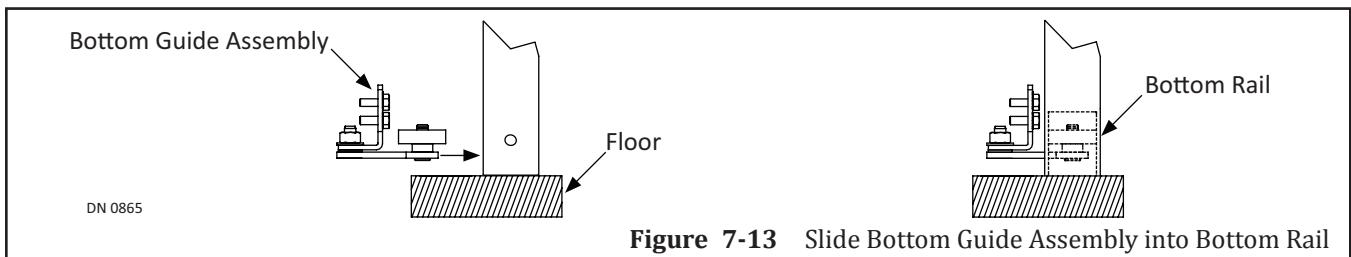

Figure 7-13 Slide Bottom Guide Assembly into Bottom Rail
4. Install the Roller Assembly by sliding (2) rollers into the Bottom rail so the bracket sticks out from underneath in direction of where the Slide door is to be installed. Please see Figure 7-13.